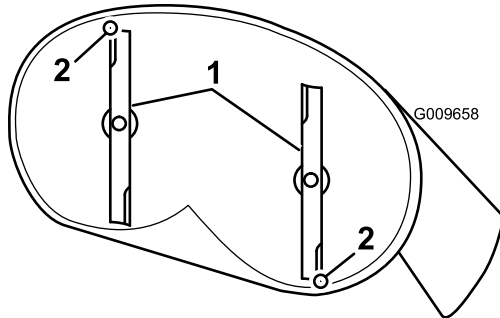

Figure 50
4. Carefully rotate the blades so they are facing front to rear (Figure 50).
5. Measure from the tip of the front blade to the flat surface and the tip of the rear blade to the flat surface (Figure 50). If the front blade tip is not 1/16-5/16 inch (1.6-7.9 mm) lower than the rear blade tip, adjust the front locknut.
8. After adjustment, check the front-to-rear slope again. Continue adjusting the nut until the front blade tip is 1/16-5/16 inch (1.6-7.9 mm) lower than the rear blade tip (Figure 50).